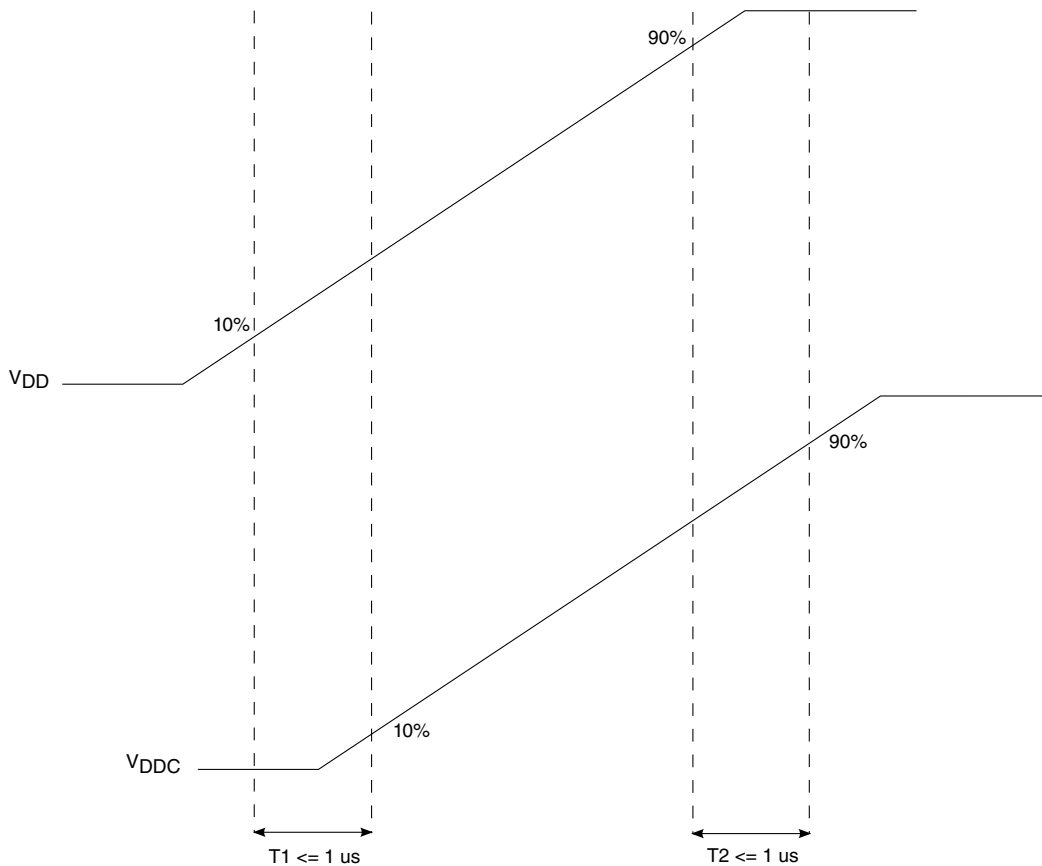

Figure 8. V_{DDC} and V_{DD} ramp-up diagram
2. When deep sleep mode is used, V _{DDC} should ramp up before V _{DD} . Alternatively, V _{DD} may ramp up together with V _{DDC} provided that the relative timing between V _{DDC} and V _{DD} ramp up conforms to Figure 8 .